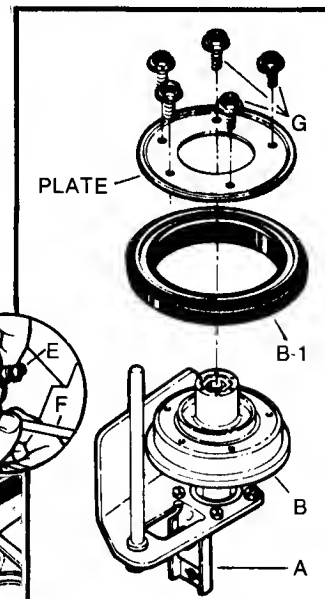

FIG. 14
- ☐ Grease on drive disc (C)-causing slippage.
- ☐ Broken or disconnected DRIVE SPRING (D) (also refer to FIG. 14).
- ☐ Driven disc rubber ring (B-1) worn - not contacting drive disc (C) properly.
- ☐ Driven disc (B) out of adjustment
DRIVEN DISC REPLACEMENT: If the driven disc rubber ring (B-1) is found to be badly chunked or worn down to within 1/16" of the metal rim of the driven disc hub (B), it must be replaced. Remove the clip (E) at end of speed control rod, and then turn the transfer rod (F) to a upright (vertical) position and detach from the connector (A) (FIG. 14 & 15). Unhook drive spring (D) (use needle nose pliers) and slide the driven disc assembly off hex-shaft.